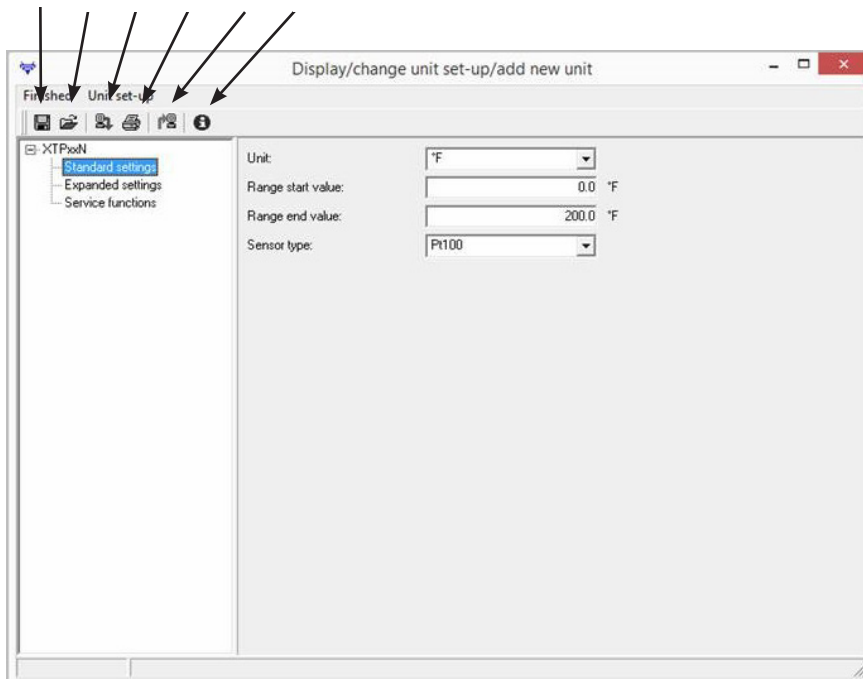

Figure 4
After connection has been made with the transmitter the Configuration Window (Fig. 4) will open. The actual parameters are read from the connected transmitter and displayed.
Button (1) in Fig. 4 will open a Save As window allowing the current configuration parameters to be exported (saved) to a file.
Button (2) in Fig. 4 will allow a previously exported (saved) parameter configuration file to be selected and imported into the XT-SOFT program.
Button (3) in Fig. 4 will transmit (save) the currently displayed parameter settings to the transmitter unit.
Button (4) in Fig. 4 will open a print dialog box allowing a print out of all operating parameters currently displayed in XT-SOFT.
Button (5) in Fig. 4 will read the saved configuration parameters in the connected transmitter and display them in XT-SOFT.
Button (6) in Fig. 4 will open this Help File document in .pdf format.